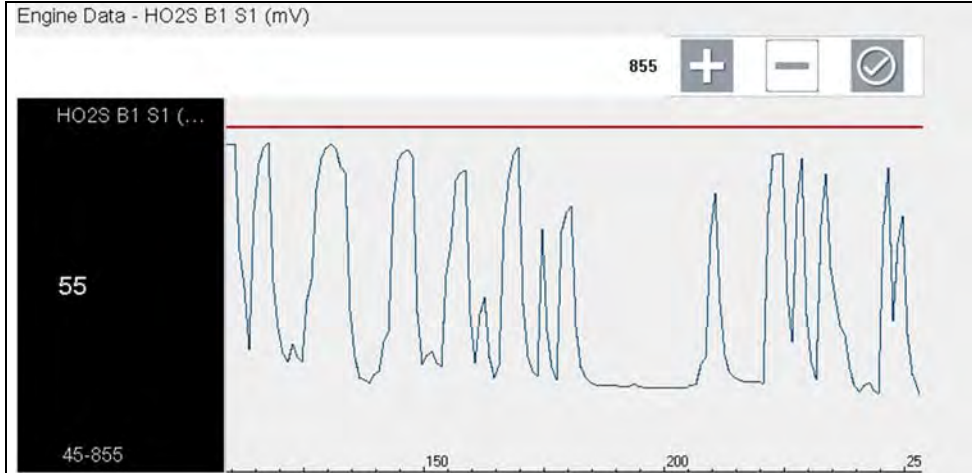

Figure 5-40 Trigger setup - upper limit
A graph of the highlighted PID and setup icons display (*Figure 5-40*).
The upper trigger point must be set first. A red horizontal line is displayed across the data graph (*Figure 5-40*) representing the upper trigger point.
4. Use the plus (+) and minus (–) icons (*Figure 5-40*), or the up ▲ and down ▼ arrow buttons to change the position of the upper trigger point.